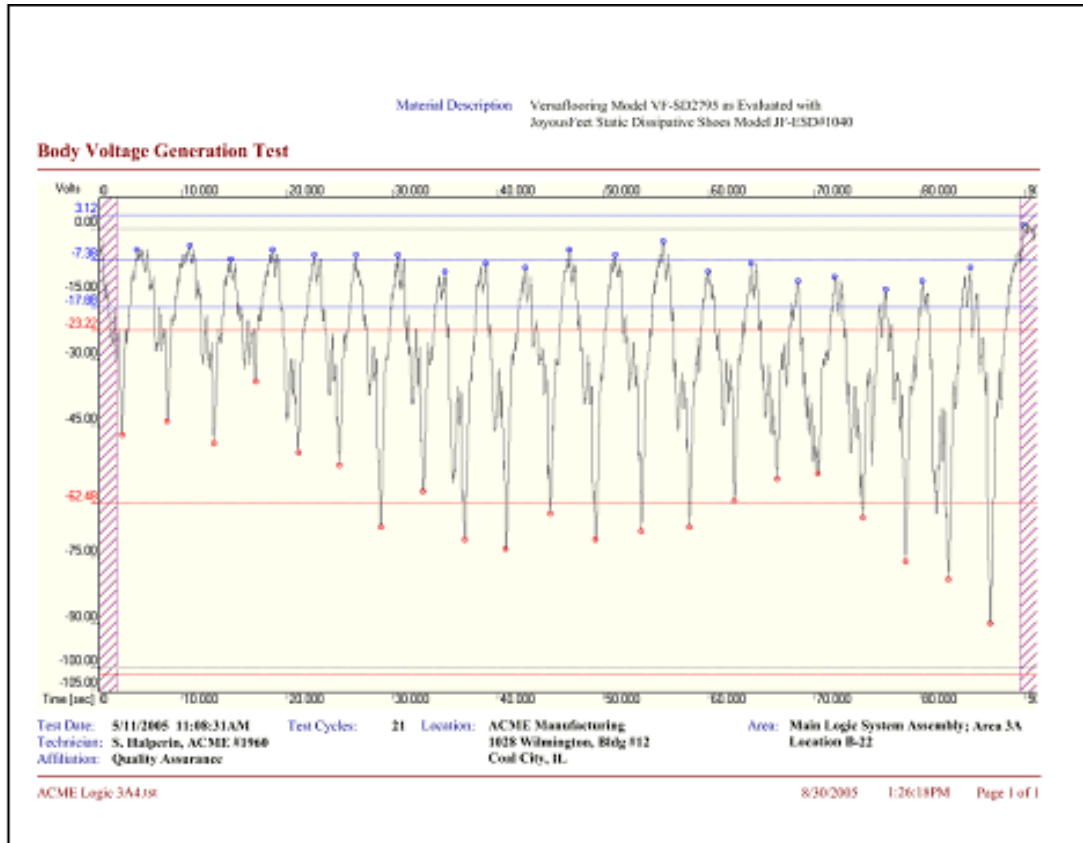

Figure 29: Full Size Chart with Session Wizard Information
- b. If the **Body Voltage Test** is selected, a full size 8.5 x 11.0 inch landscape chart will be generated for printing, or export (Figure 29). Any information entered in the Session Wizard will be included on the chart.